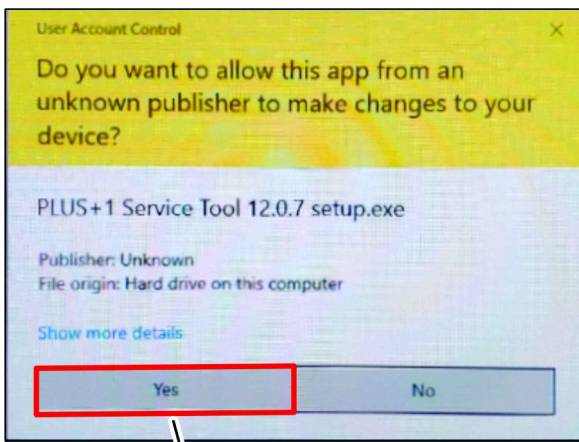

Figure 16
2. If the User Account Control dialog box displays, click the YES button (Figure 16).